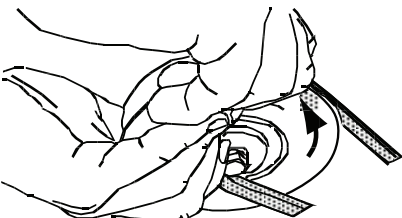

Figure 55
9. Pull the right side of the belt and place the narrow "V" side of the belt into the PTO pulley (Figure 55).